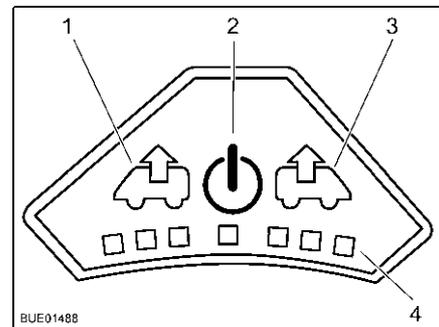

Fig. 72 Control panel for fan
- Press the On/Off button (Fig. 72,2). The fan runs in comfort mode (venting at slowest fan speed).
- To increase the fan speed: Press the Vent button (Fig. 72,1). The fan speed in the venting direction increases by one level. LEDs (Fig. 72,4) show the operating levels.
- To lower the fan speed: Press the Aerate button (Fig. 72,3). The fan speed decreases by one level.
- To increase the fan speed: Press the Aerate button (Fig. 72,3). The fan speed in the aerating direction increases by one step. LEDs (Fig. 72,4) show the operating levels.
- To lower the fan speed: Press the Vent button (Fig. 72,1). The fan speed decreases by one level.
- Press the On/Off button (Fig. 72,2). The fan stops, the LEDs go out.